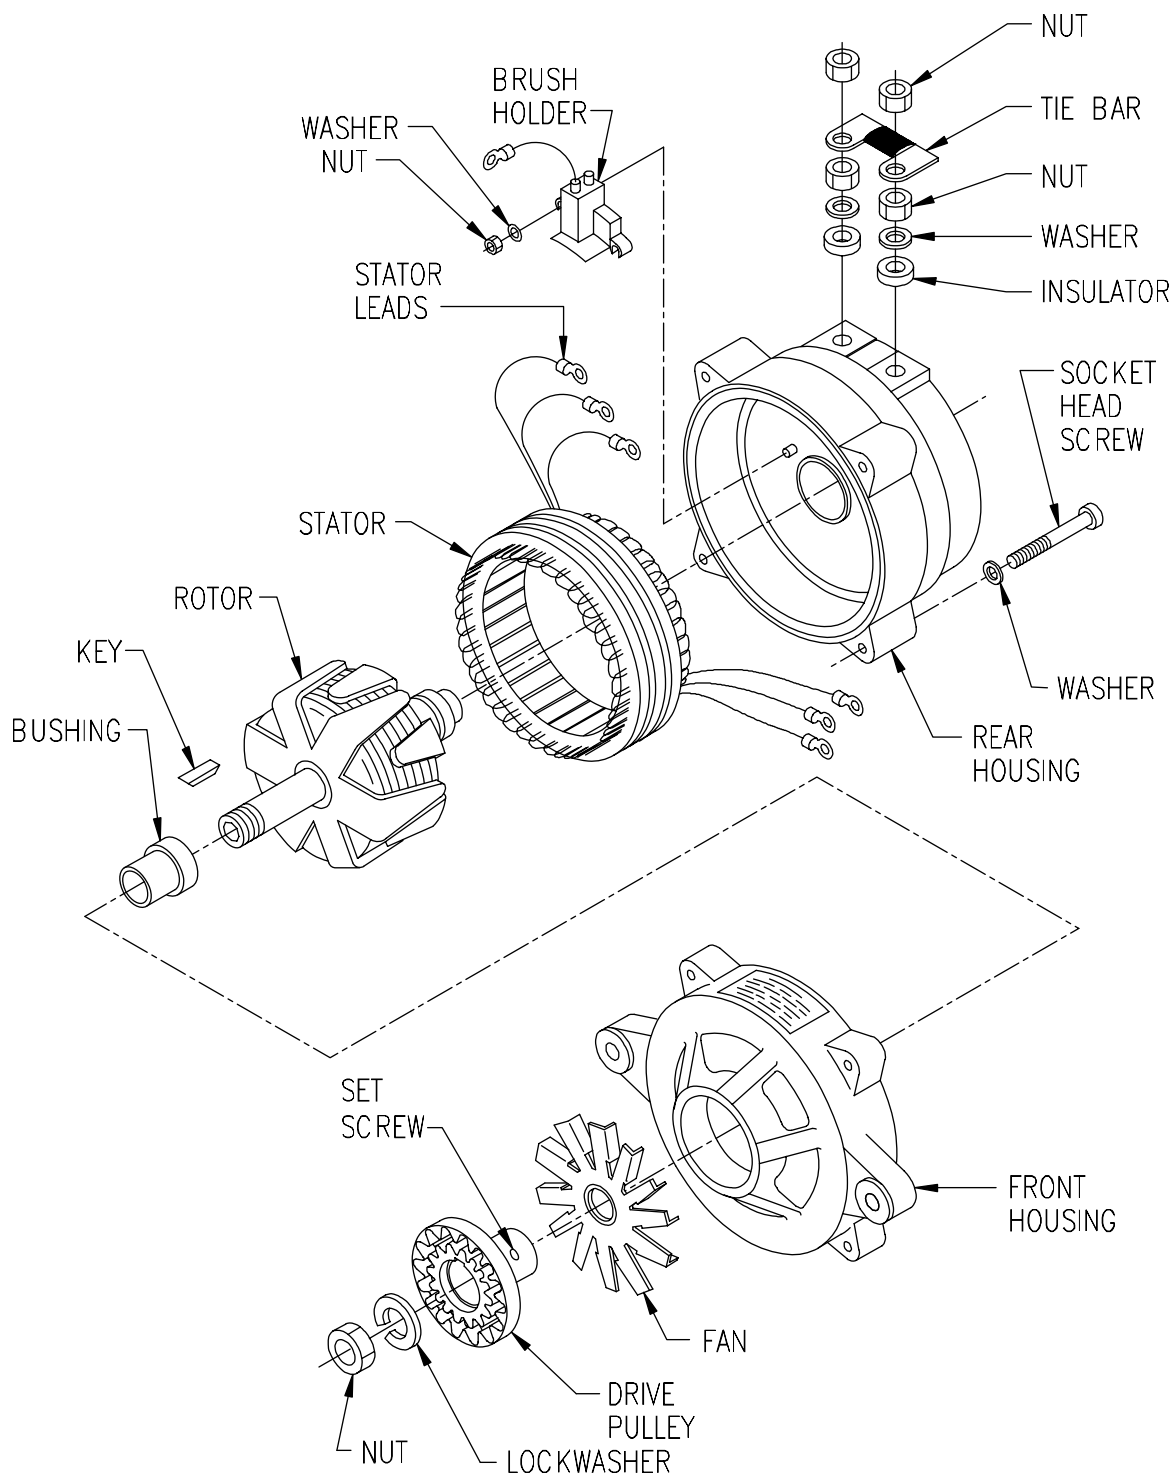
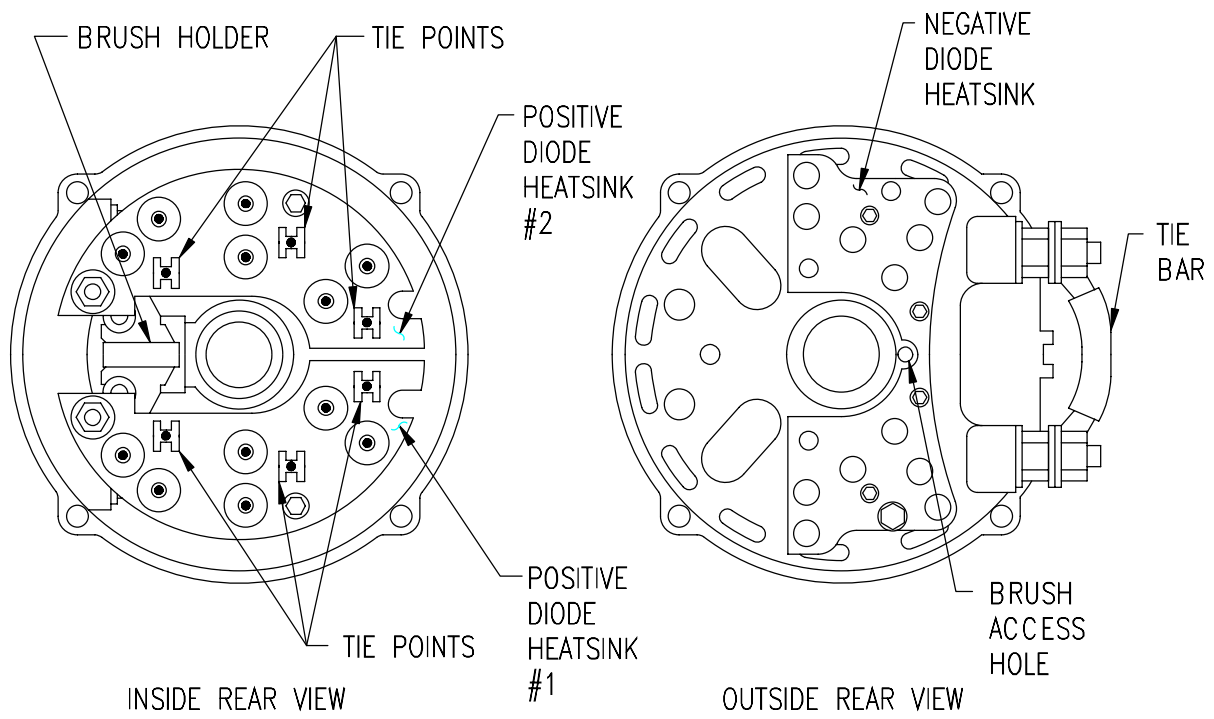

Figure 5-42. DC Alternator Assembly
Figure 5-43. Heatsink Tie Point Locations
- (1) Hold rotor shaft from turning using an allen wrench inserted in end of shaft, and remove nut and lockwasher from rotor shaft (Figure 5-42).
- (2) Loosen setscrews securing drive pulley to rotor shaft. Then using suitable puller, remove drive pulley. It may be necessary to gently tap the outside diameter of the pulley with a plastic mallet.
- (3) Remove key, fan, and bushing.
- (4) Match mark housings, remove four socket head screws, and carefully separate rear housing with stator from rotor and front housing.
- (5) Tag stator leads. Then remove nuts from heat sink tie points (6 places) and carefully separate stator from rear housing. Reinstall nuts on tie points to retain diode leads (Figure 5-43).
- (6) If necessary, remove nuts and washers securing brush holder. Remove brush holder.
- (7) If necessary, separate rotor and front housing.
- (8) If necessary, remove nuts, tie bar, washers, and insulators from positive terminals.
- (9) If necessary, replace bearings. Refer to paragraph 5.29.b.
- (10) If necessary, replace diodes and capacitors. Refer to paragraph 5.30.a.
- (1) If removed, install diodes and capacitors. Refer to paragraph 5.30.c.
- (2) If removed, install bearings. Refer to paragraph 5.29.c.
- (3) If removed, carefully fit rotor shaft through front housing (Figure 5-42).
- (4) Install new brush holder with brushes by aligning holder to mounting holes with arm over tie point. Ensure that lower brush lead is captured under right side mounting stud.
- (5) Secure brush holder with two nuts and washers.
- (6) Install three stator leads as tagged to heat sink terminals. Secure with nuts and remove tags.
- (7) Insert a straight pin (straightened paper clip, for example) through brush access hole in rear housing to retain brushes (Figure 5-43 for location of brush access hole).
- (8) Align rear housing with rotor and front housing match marks and carefully press components together. Then install thru bolts and lockwashers. Remove straight pin retaining brushes.
- (9) Position bushing (Figure 5-42), fan, and key on rotor shaft.
- (10) Apply locking compound (Item 6, Appendix E) to nut, then install drive pulley, lockwasher and nut. Hold rotor shaft with allen wrench and torque nut from 55 to 70 lbs-ft (75 to 95 Nm).
- (11) Apply locking compound (Item 6, Appendix E) to threads of setscrews, torque setscrews to 50 lbs-in. (5.6 Nm) to secure drive pulley.
- (12) If removed, install insulators, washers, nuts, and tie bar on positive terminals.
- (1) Remove four socket head screws (Figure 5-42) and carefully separate rear housing with stator from rotor and front housing.